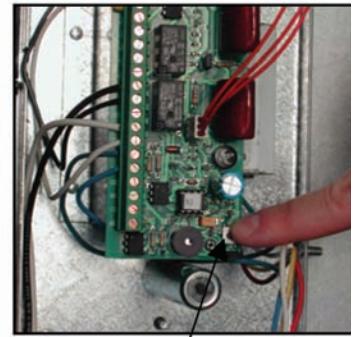

Figure 22
8. Press the timer reset button on the circuit board using the eraser end of a pencil or the blunt end of a plastic ink pen. Hold for three seconds. (See Figure 22)